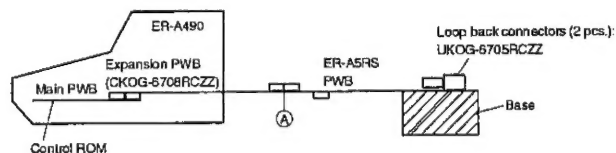

Fig. 7-2
Use an insulator base as shown in Fig. 7-2 (shaded section) and perform servicing.
(Note) The option I/F PWB should be held horizontally so that no excessive stress is applied to connecting section (A) in Fig. 7-2.